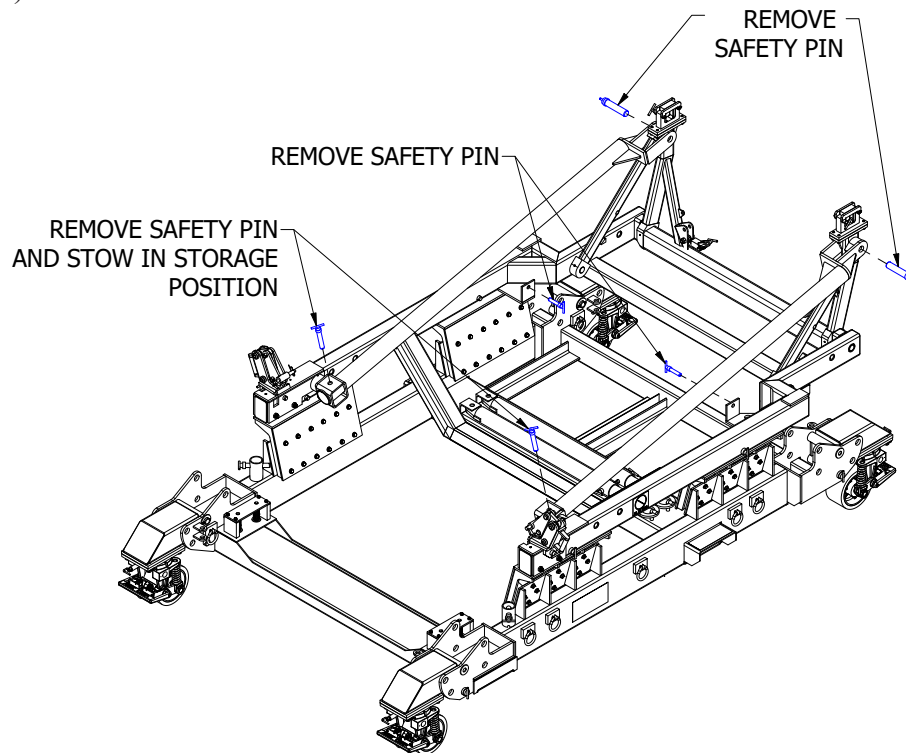
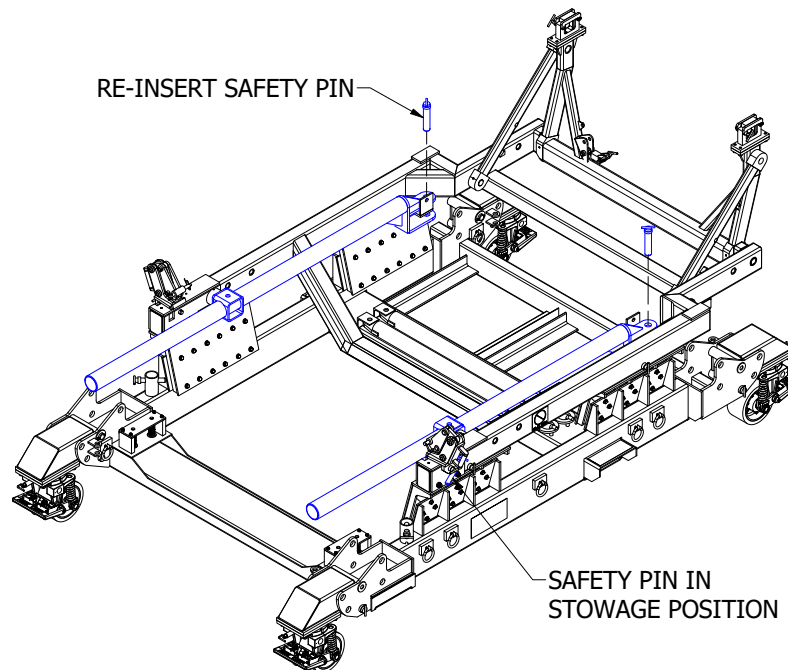

Figure 4.9-2
Figure 4.9-3
2). Remove six (6) Safety Pins (Figure 4.9-2) and stow two (2) Safety Pins in stowage position (Figure 4.9-3).